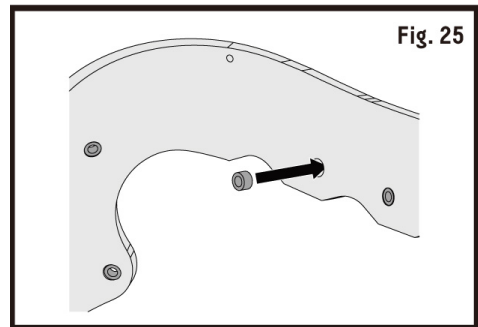

Fig. 25
1. Install spacers into paddle holes. (Figs. 25 & 26).